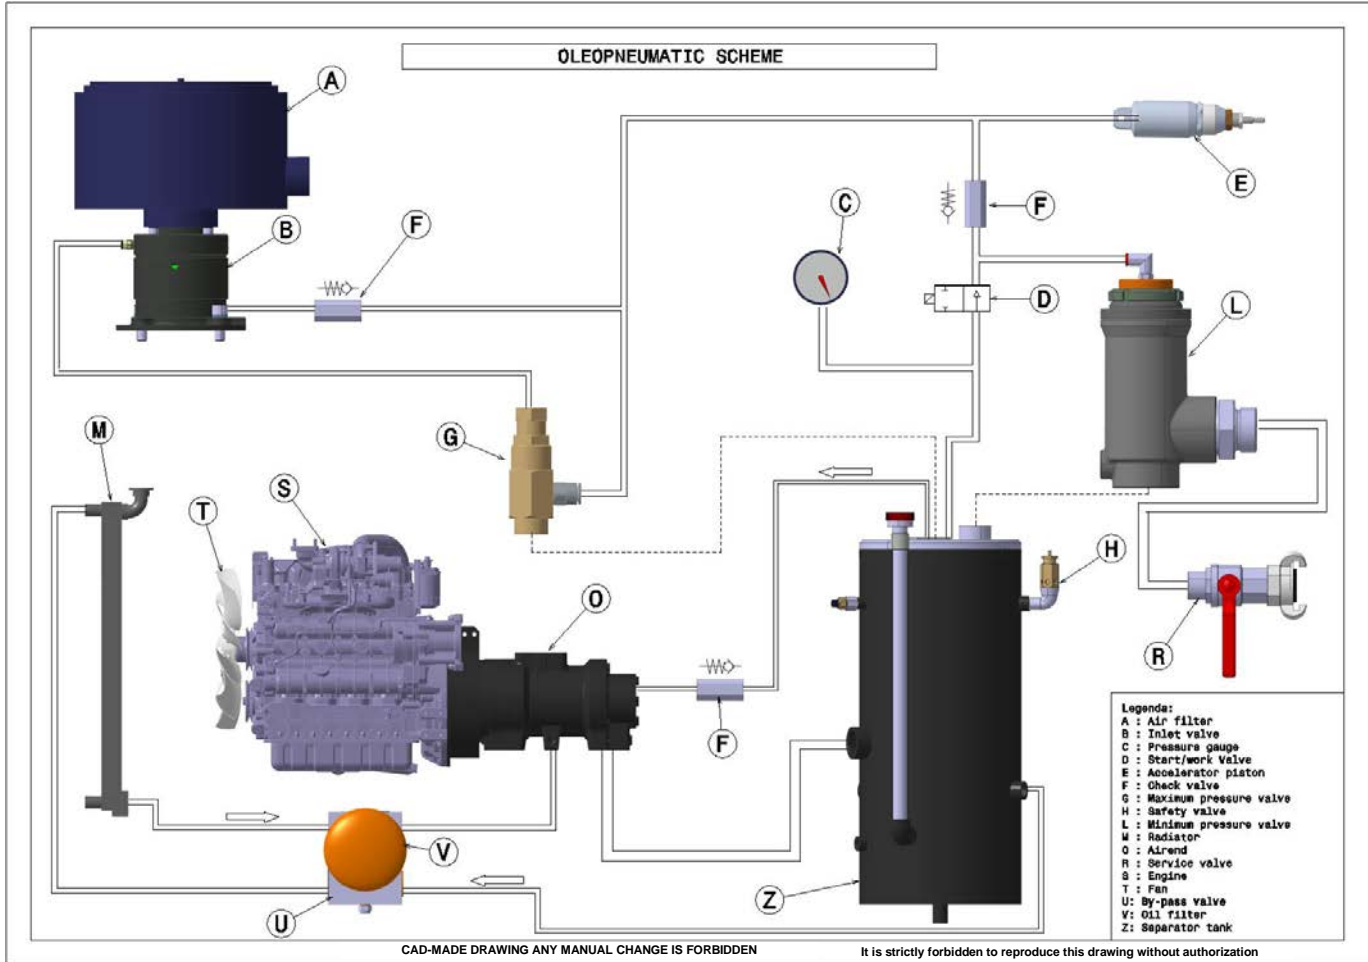

Figure 8.4-1 Hydraulic and pneumatic systems
As shown in fig.8.4-1 the lower part of the oil separator tank (Z) acts as an oil tank, while the filtering part is situated at the top which separates the air from the oil.